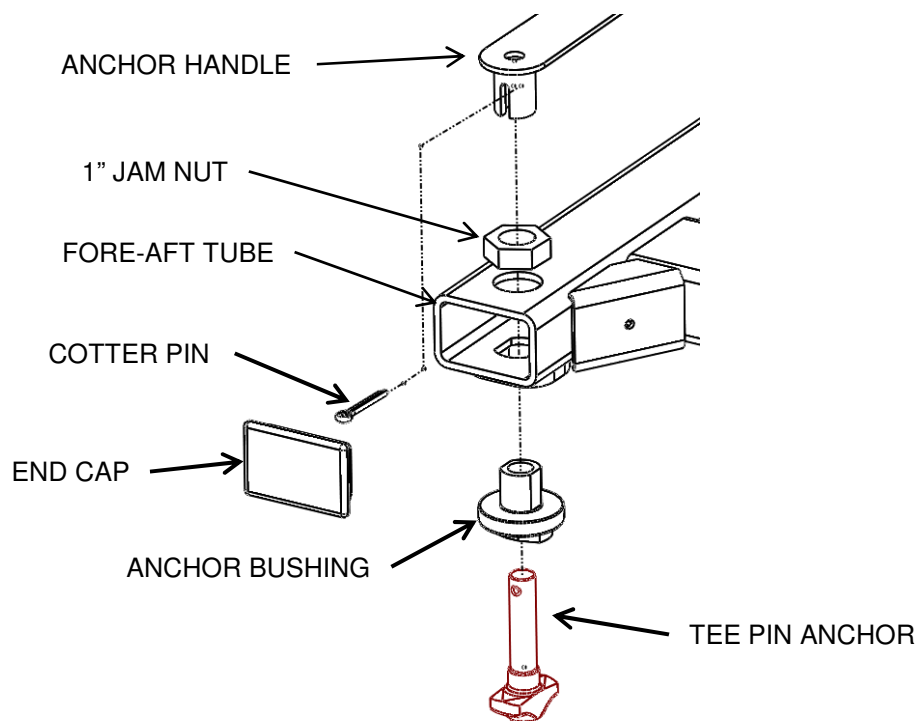

FIG 1
- If the adapter does not fall into the under bed mounting pucks, when handles are in unlocked position, the tee pin bushing needs adjustment. This can be done by loosening removing the four cotter pins in the anchor handles, then unthreading the tee pins from the anchor handles. Once the handles and tee pins are removed a closed ended wrench can be used to loosen the four 1" jam nuts (refer to fig 1). Do not completely unthread the jam nuts, then drop the kit into the mounting pucks. While the kit is in the correct position tighten down the 4 jam nuts so there is not vertical play in the anchor bushing and the fore-aft tube. Finally install the tee pins and the cotter pins in the reverse order they were removed, or follow the system assembly (page 2) . Replace the plastic end caps.